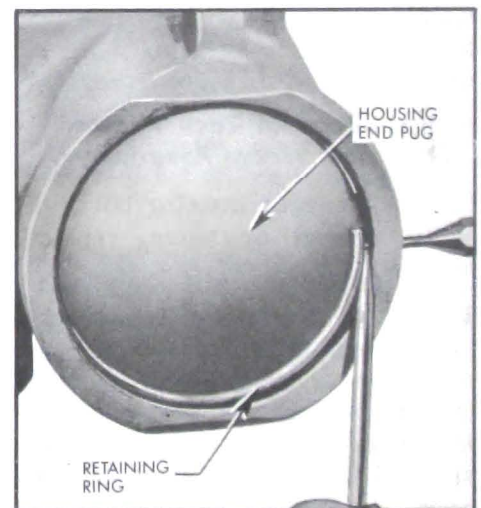

Figure 8-52—Removing Housing End Plug Retaining Ring
3. Rotate housing end plug retaining ring so that one end of ring is over hole in gear housing. Spring one end of ring with punch to allow screwdriver to be inserted to lift ring out. See Figure 8-52.